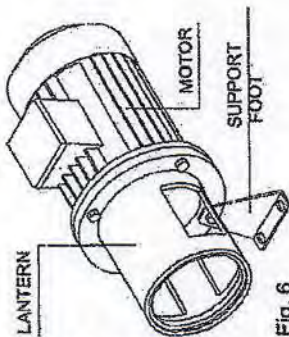
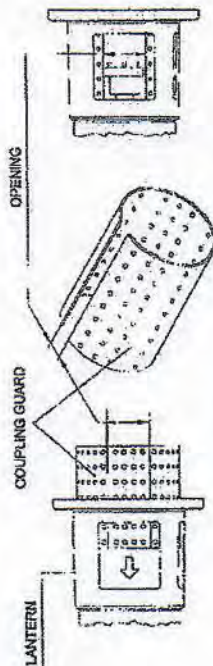

Fig. 6
Fig. 7 - PREPARING TO ASSEMBLE THE MONOBLOCK DESIGN
- 2 - Insert the perforated metal sheet coupling guard inside the lantern so that the coupling is accessible from one of the lateral openings. Couple the electric motor to the pump lantern engaging the two coupling halves, hands may reach the coupling halves through the lateral opening. (see fig. 7) tighten the assembly with bolts supplied with the unit and install the supporting foot, when applicable (see fig. 6).